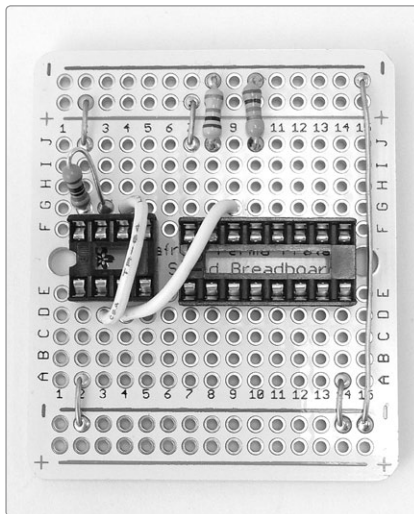

FIGURE 16-12: Placement of the three board-mounted fixed resistors
- Step 13** Place the three board-mounted resistors, which are two 10k ohm resistors (brown-black-orange stripes) and a 220 ohm resistor (red-red-brown stripes). Bend the 220 ohm resistor into a tight *V* and mount it from 2G to 3G to connect pins 7 and 8 on the 555 timer. Bend the two 10k ohm resistors into flat-bottomed *Us*. Run one from 8J to the upper ground rail (the row of holes at the top of the board) and the other from 10J to the upper ground rail. Solder all three resistors, as shown in Figure 16-12.